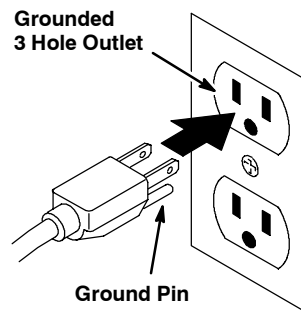

FIG. 20
6. Plug the charger's power supply cord into a grounded wall outlet (Figure 20).